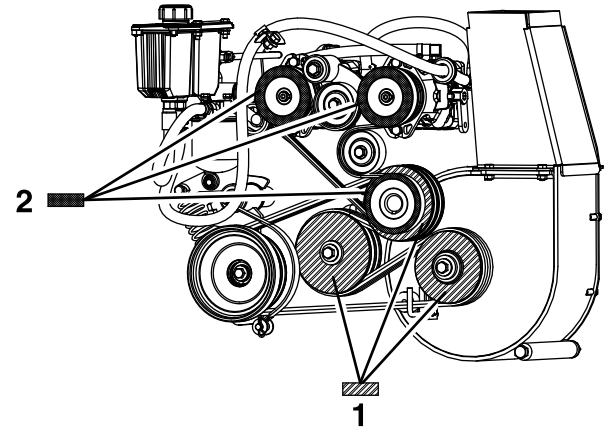

Figure 64
8. Measuring from the blower pulley as a baseline, move the engine and jackshaft until the rear surface of all three pulleys are aligned within 0.8 to 1.6 mm (1/32 inch to 1/16 inch) (Figure 64).
4. Using a straight edge, align each pump pulley with the engine pulley by sliding it along the pump shaft (Figure 64).